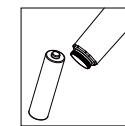

fig.5
2. Changing the batteries (fig.5)